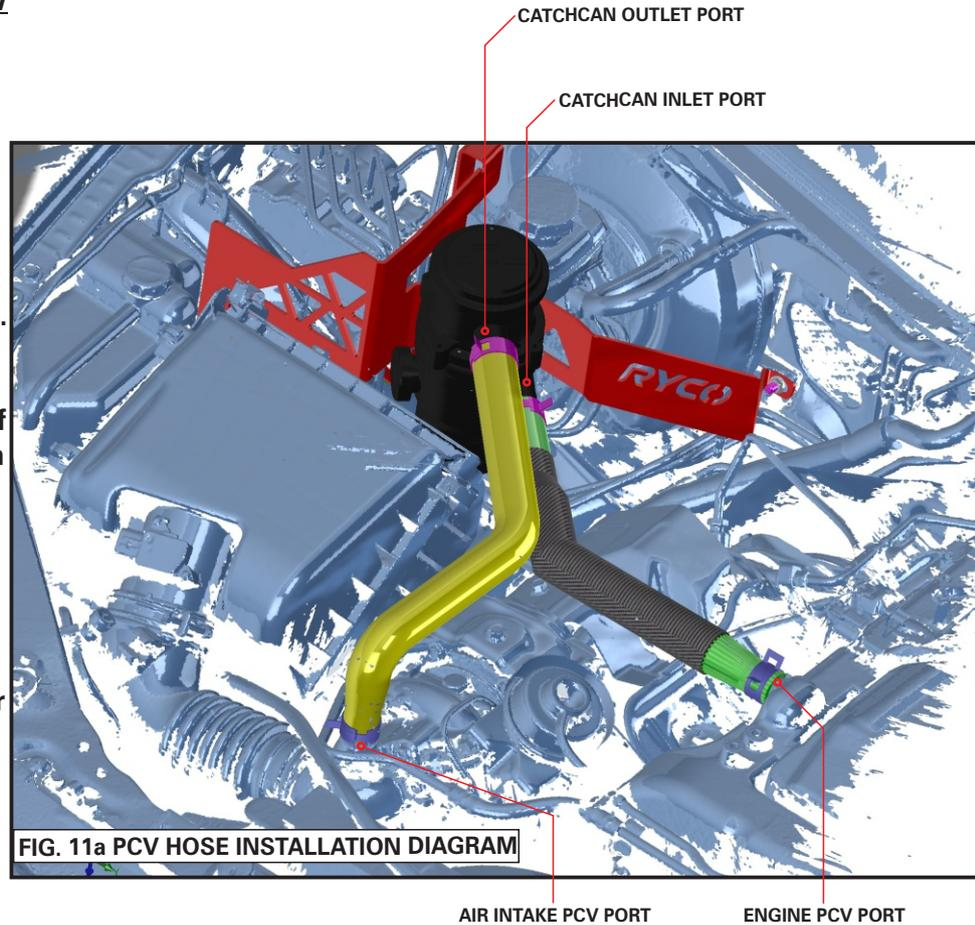

FIG. 11a PCV HOSE INSTALLATION DIAGRAM
13. Install the other end of the MH9810B PCV hose on to the lower, inlet port, of the RCC351 Catchcan and tighten with the MS4091 hose clamp as shown in Fig. 11a & 11b.
14. Install the larger end of the MH9810A hose on to the upper, outlet port, of the RCC351 Catchcan and tighten with a MS4091 hose clamp. Install the other end of the MH9810A PCV hose on to the Air Intake PCV port and tighten with a MS4094 hose clamp as shown in Fig. 11a & 11b.